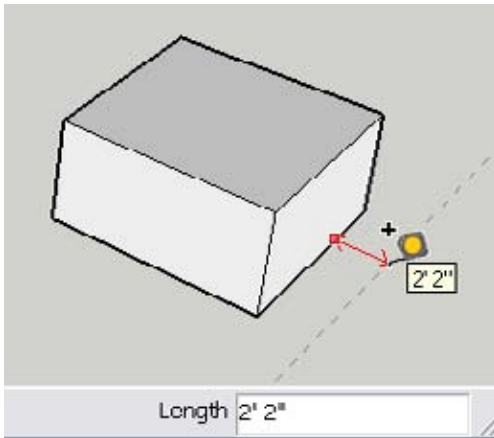

Figure 10-22
3. Move the mouse away from the edge, and the offset distance appears next to the cursor and in the Length field (Figure 10-22). Type the distance you want and press Enter, either before or after clicking to create the construction line.